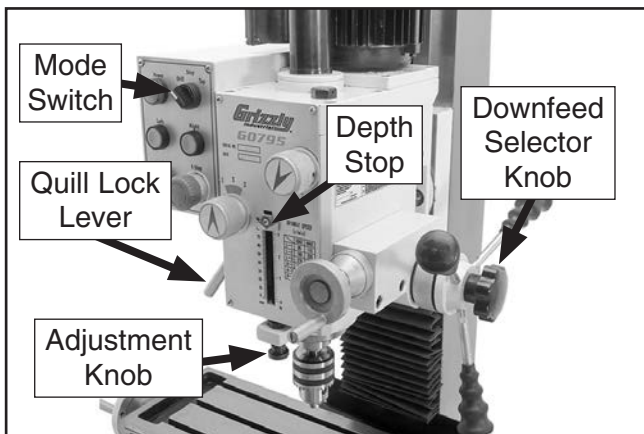

Figure 26. Locations of controls for tapping operation.
7. Set depth stop (see **Figure 26**) to workpiece hole depth.